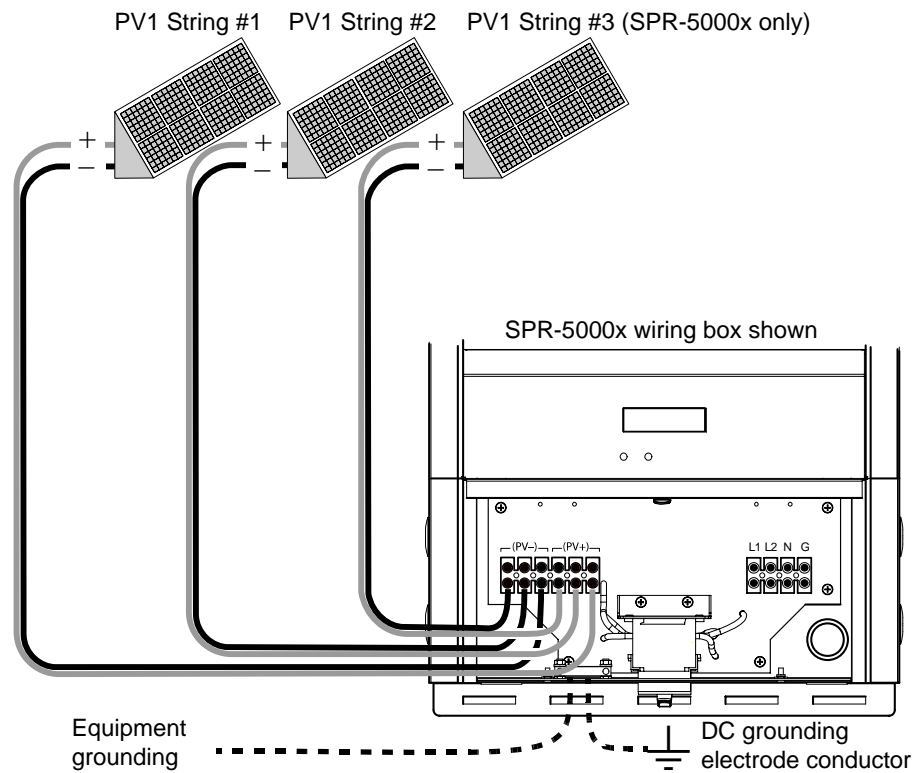

Figure 3-7 DC Connections for Multiple PV Strings
The following procedure is illustrated in Figure 3-7. If there is more than one PV string, label the positive and negative wire pairs appropriately (for example: PV1-String #1 POS, PV1-String #1 NEG, PV1-String #1 GND, PV1-String #2 POS, etc.).
6. Install the DC grounding electrode conductor in the ground bar shown in Figure 3-7.